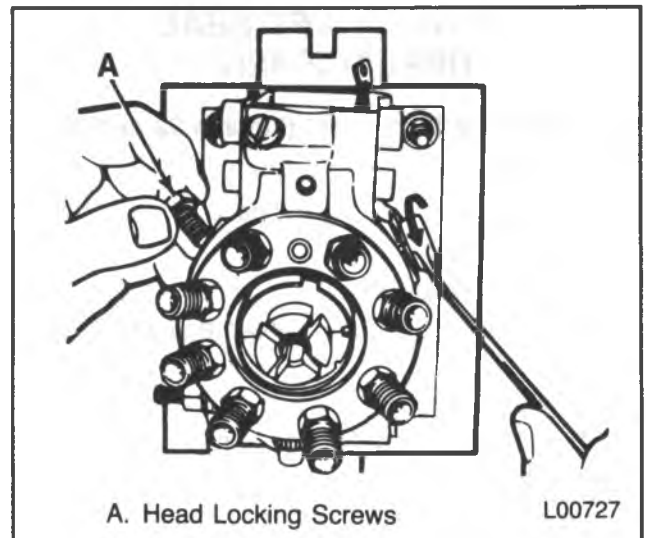

Figure 27 — Head Locking Screws
8. Head locking screws (figure 27).
3. Head locking screws (A) loosely (figure 27).